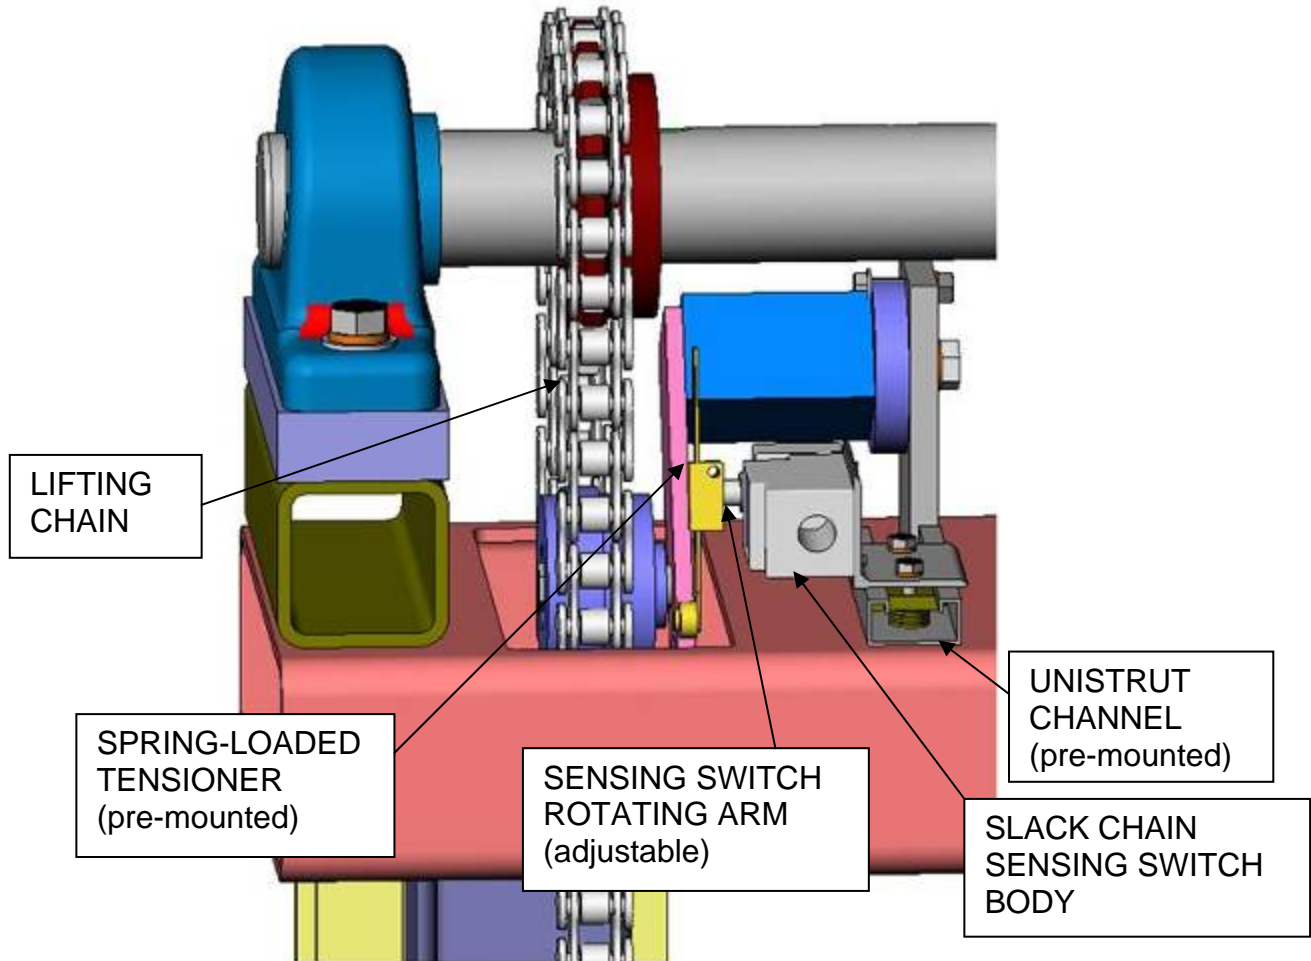

Figure 33b Slack Chain Sensor Kit Mounting
- b. With the sensing switch arm mounted hanging down & tightened, slide the sensing switch assembly in the Unistrut channel towards the tensioner arm until the switch arm pushes against the tensioner arm and the switches electrical contacts close (listen for the “click”). **See Fig. 33b**.